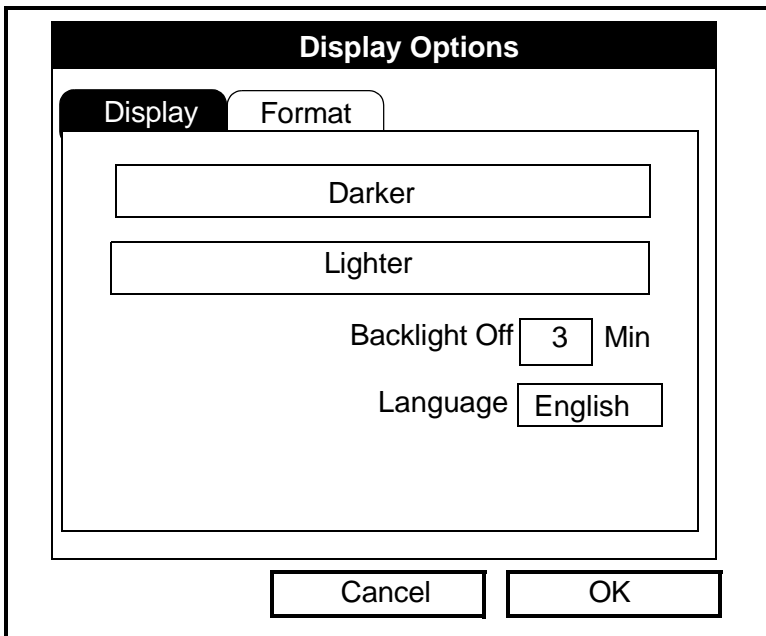
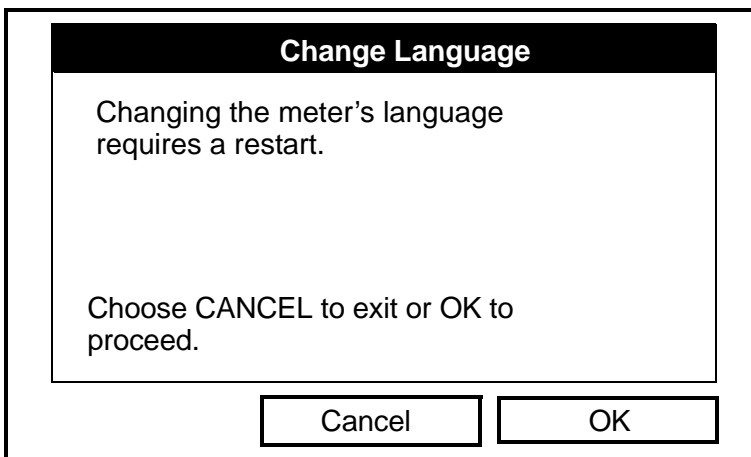

Figure 6-5: Display Tab in the Display Options Window
Figure 6-6: Confirmation Window for Language Change
1. From the Meter menu, scroll to the Contrast entry and press [ENTER]. The Display Options window opens on the Display tab, as shown in Figure 6-5 below. (From the Format tab, press the [◀] key to move to the Display tab.) To step through each parameter, press the [▼] key.
1. From the Meter menu, scroll to the Backlight entry and press [ENTER]. The Display Options window opens on the Display tab, as shown in Figure 6-5 on page 6-11.
- To confirm the entries and return to Operate mode, press [F3] (OK). The PT878 returns to Operate Mode.
1. From the Meter menu, scroll to the Language entry and press [ENTER]. The Display Options window opens on the Display tab, as shown in Figure 6-5 on page 6-11.
5. Press [ENTER] to confirm the entry, and [F3] (OK) to close the option.
6. Since changing the language requires restarting the PT878, a window (shown in Figure 6-6 below) opens, asking that you confirm the change. Press [F2] to cancel the change or [F3] to confirm the change.